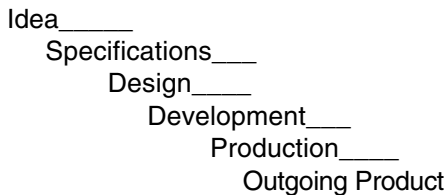

FIG. 1
Be aware that the world has TWO small-dimension fuse rating schemes: (1) the North America (read UL and CSA) scheme, and (2) the IEC scheme. To get the same performance from either scheme, you would need to specify two different fuse rating values, one for a UL-CSA fuse, and the other for an IEC fuse. See Figure 1, Table 1, and Table 2.
A manufacturing process follows the steps shown in Fig. 1.